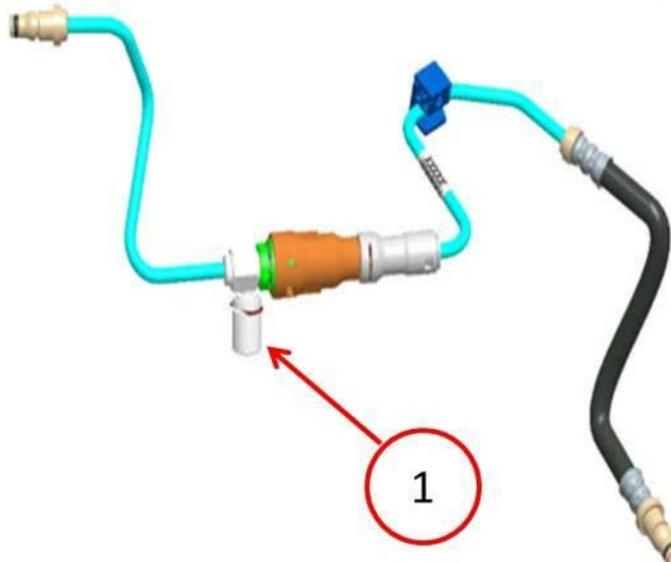

Fig. 7 Hydraulic line with cap
6. Install the cap onto the hydraulic line in place of the damper (Fig. 7).